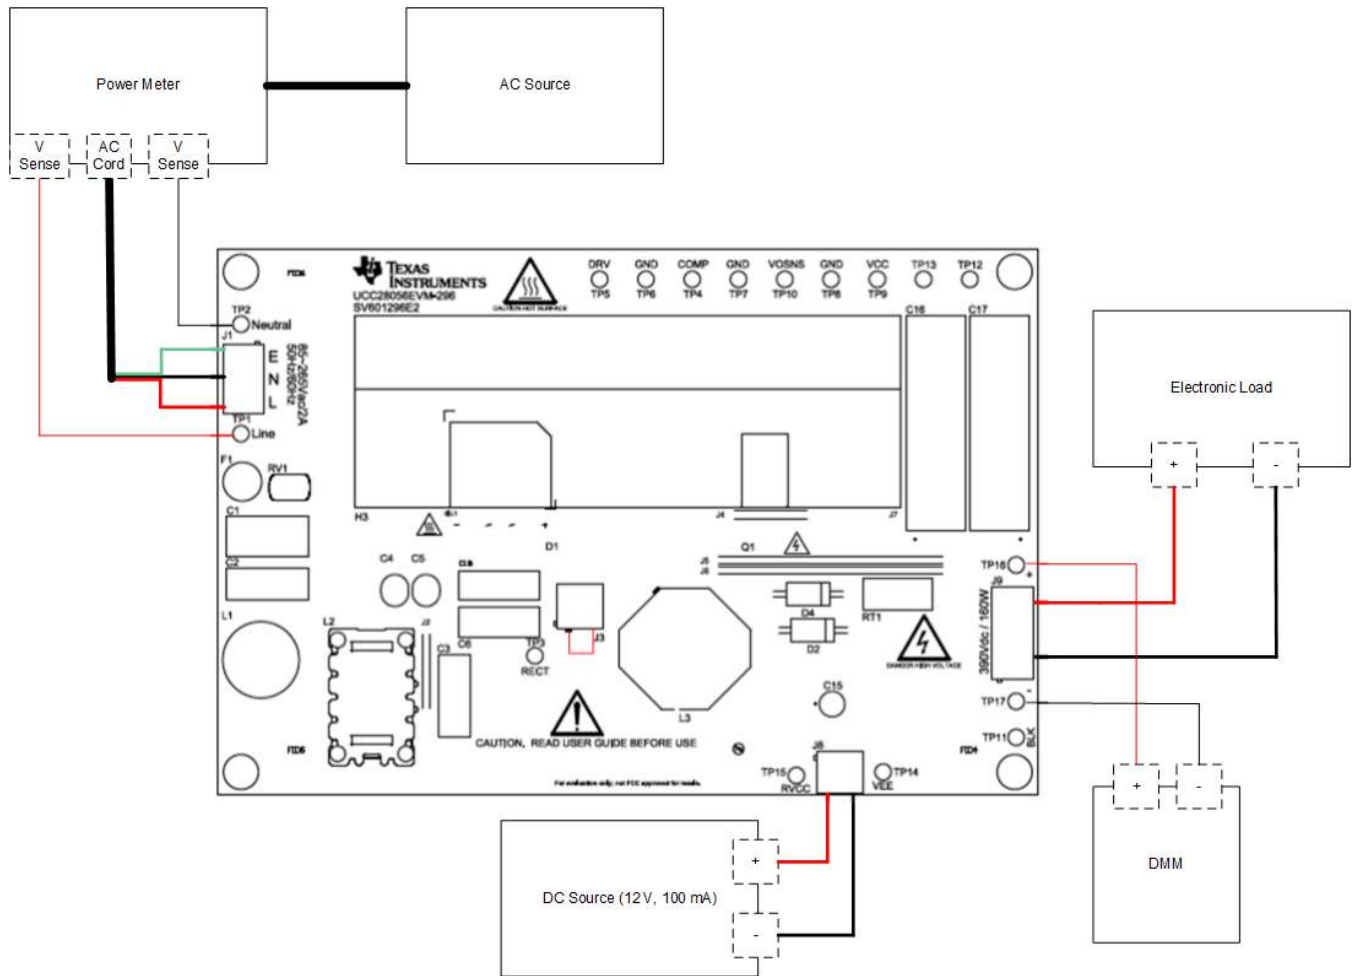

Figure 1. UCC28056BEVM-296 Recommended Test Setup
Figure 1 illustrates the recommended test setup.
1. Refer to Figure 1 for basic setup. Table 2 lists the required equipment for this measurement.